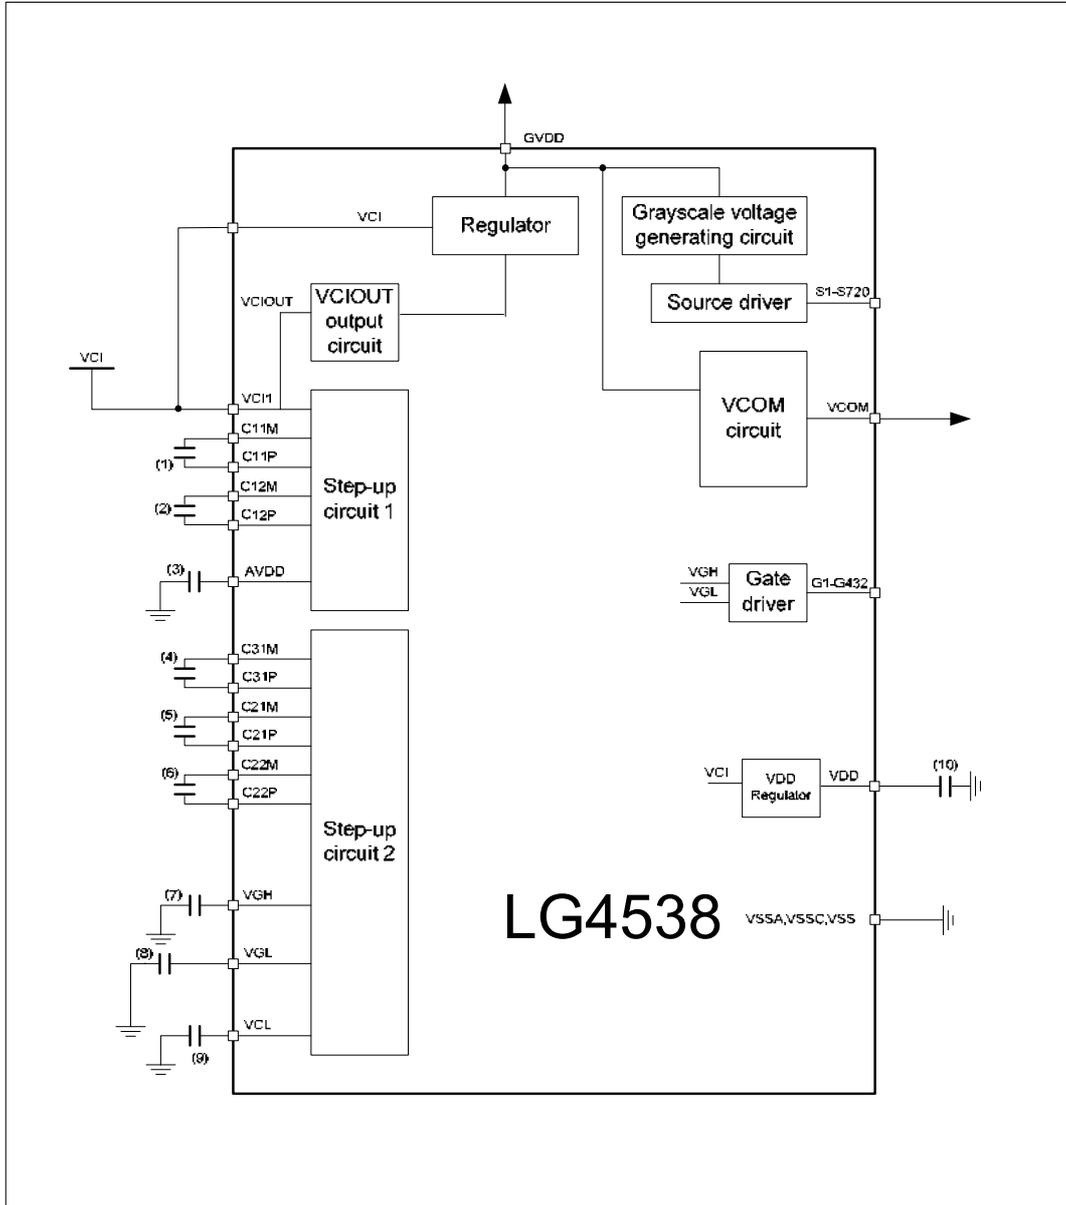

Figure 79
2. The numbers in the parentheses corresponds to the numbers of the elements in Figure 78, Figure 79.